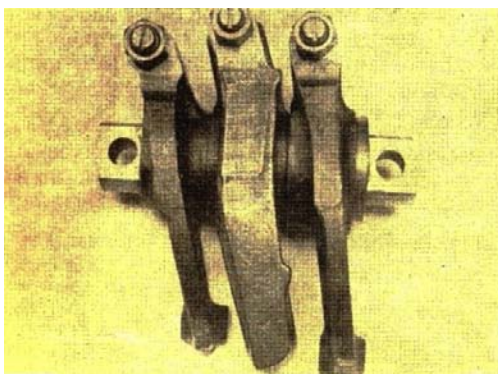

Fig. 3-9. Rocker lever assembly
3. Install the rocker levers on the shaft in the following order: intake (1, Fig.3-9), injector (2), exhaust (3) and spacer (4) (when used).